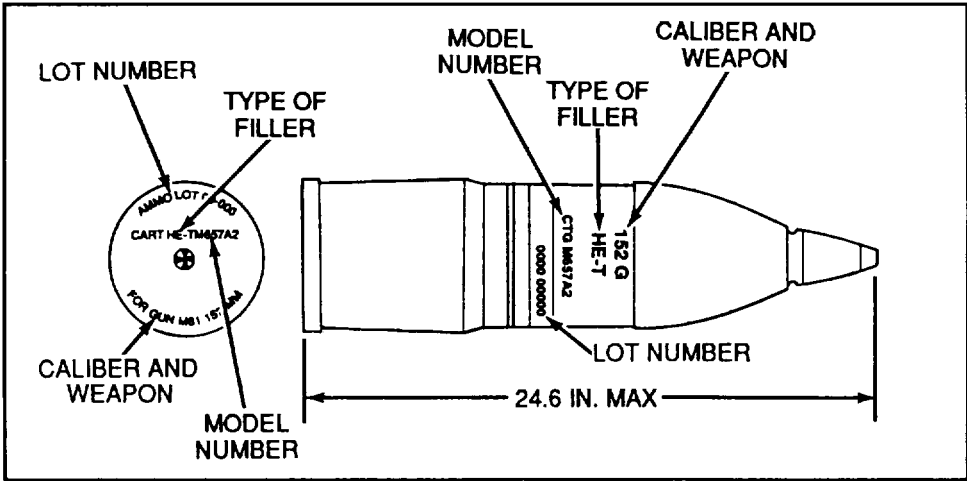

Figure 4-1. 152-mm HE-T Cartridge M657A2 with Cartridge Case M157
HE-T-High-Explosive with Tracer (figure 4-1).
- (1) Complete rounds are identified by color (type of ammo) and marking (type, model number, lot number, caliber, weapon, etc.). Markings are stenciled on projectile in appropriate color. See table 4-1 for color coding, figures 4-1 and 4-3 for marking.
- (2) You can also identify 152-mm ammo by its distinctive cartridge case. Texture of nonmetallic case is similar to fiberboard; color is light yellow.